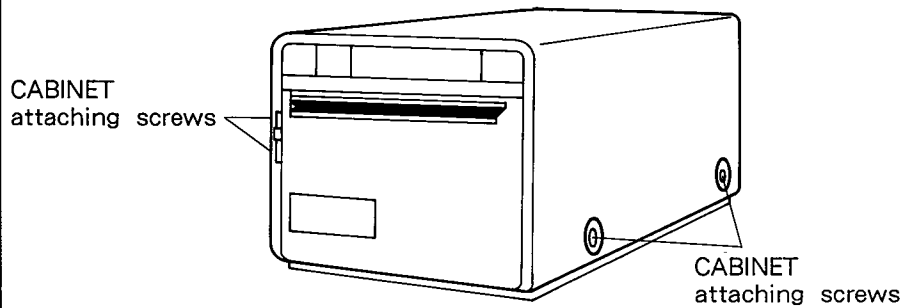

Fig. 1
1. Remove four screws securing the CABINET. (Fig.1)
1. Remove the CABINET. (Fig. 1).
1. Remove the CABINET. (Fig. 1)